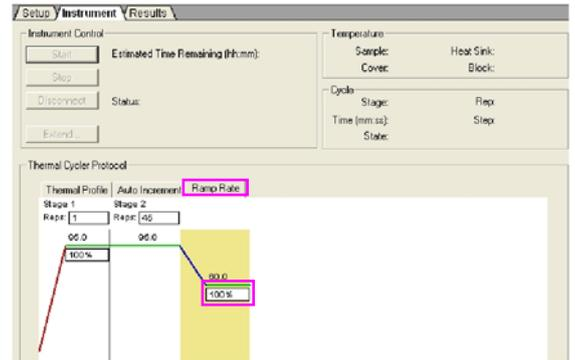

Fig.13
- Click on the **RAMP RATE** tab (Fig.13).